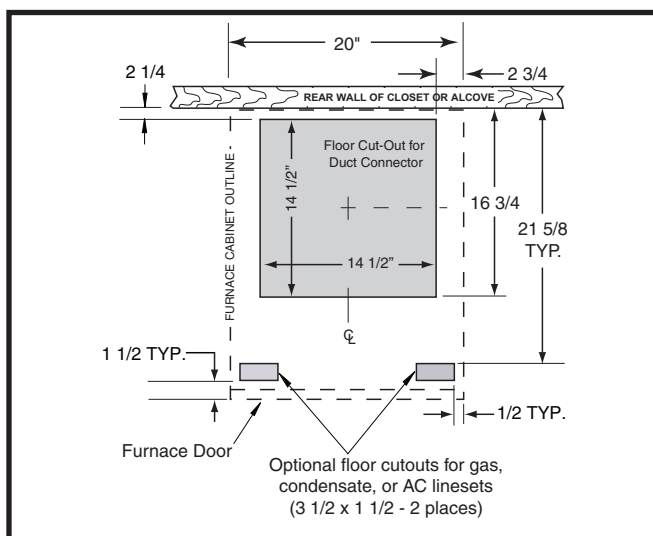

Figure 10. Floor Cutout Dimensions
1. Measure from the rear wall or alcove and mark the centerline of the cut-out on the floor. Using the centerline as a starting point, draw the rest of the duct cut-out to the dimensions shown in Figure 10.
IMPORTANT NOTE: Cut-outs in the ceiling and roof must be carefully located to avoid misalignment of the furnace, combustion air piping, and vent piping. See Figure 10.